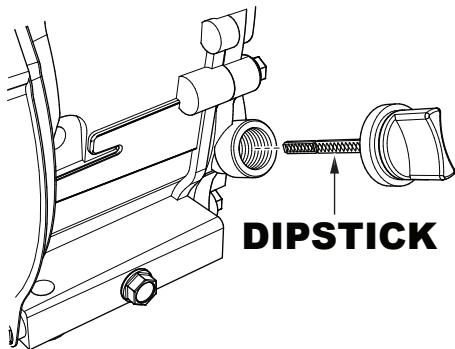

Figure 19. Engine Oil Dipstick
2. Remove the dipstick (Figure 19) from the engine oil filler hole and wipe it clean.